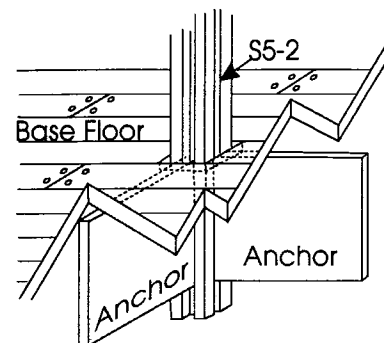

Figure 21
4. Using the Anchors (Sheets FH - 17 and 20) you now need to anchor your Walls and Corner Posts. Run a bead of glue in the grooves of the Corner Posts on the underside of the Base Floor. Insert one anchor piece into each groove and glue to base floor. Fig. 21.